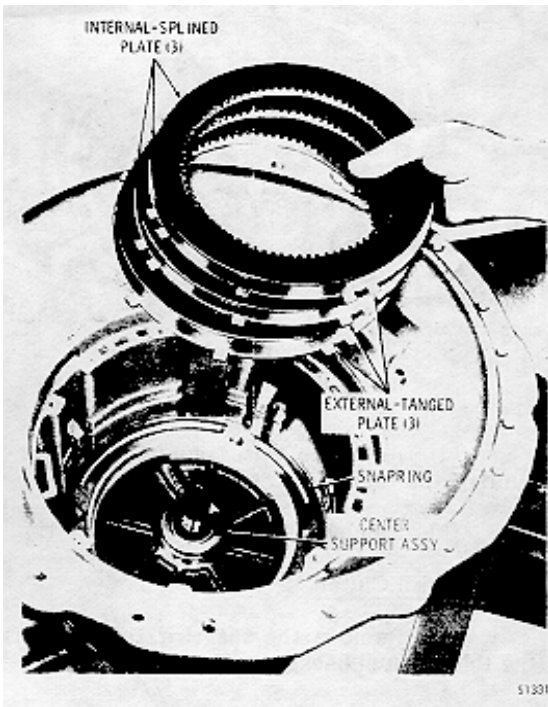

Fig. 5-13. Removing third clutch plates
- (2) Remove the backplate.
- (3) Remove the six third clutch plates (fig. 5-13).
(1) Remove the snapping that retains the center support assembly (fig. 5-13). This is a selective thickness snapping (refer to para 7-2a(2)).